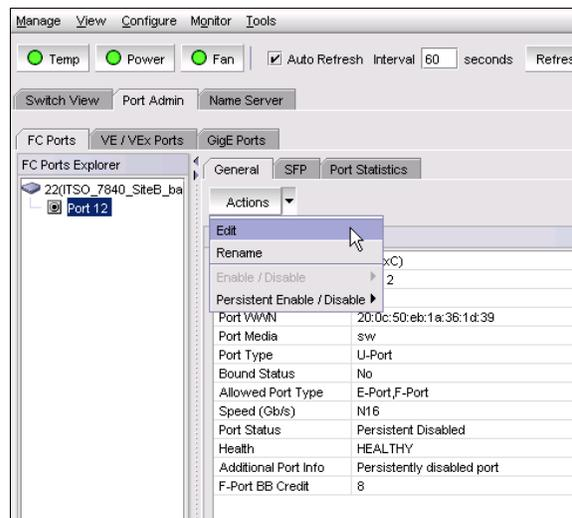

Figure 6-42 Edit port for routing configuration
- b. Click **Actions** from the General tab and select **Edit** (Figure 6-42).